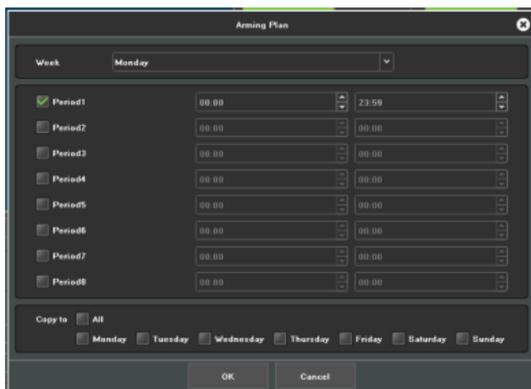

Figure 7.19 Planning
- 3) Set up the planning of the channel, as shown in Figure 7.19.